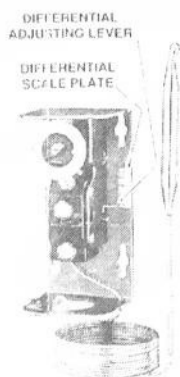
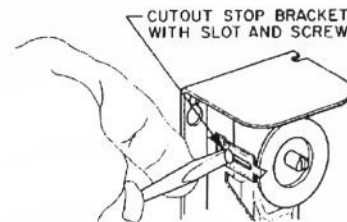

Fig. 1 -- An A19 with external range adjustment and screwdriver slot.
Fig. 5 -- All models have a screw type cutout stop. The stop screw must be loosened and moved to the stop setting desired. Tighten screw after setting is made.
The A19 temperature controls may be supplied with an external range adjustment and screwdriver slot as shown in Fig. 1, range adjustment knob or solid cover. Solid cover models with calibrated dial are adjusted by removing the cover and moving dial so the desired setting is in line with the dial pointer on the stop bracket. (See Fig. 5.) Convertible adjustment models can be field converted from concealed screwdriver slot adjustment to knob adjustment or external screwdriver slot adjustment. They are supplied with a snap-in plug in the cover to provide concealed screwdriver slot adjustment. For knob adjustment remove the snap-in plug and press the knob onto the slotted shaft. For external screwdriver slot adjustment remove the snap-in plug. The convertible adjustment models with remote bulb include a bulb mounting clip.
3. Loosen the cutout stop screw, slide the screw to the front of the temperature control against the plastic step behind the dial and tighten the screw. (See Fig. 5.) Sometimes an exact stop setting is not possible and stop must be set to the closest stop corresponding to dial setting required.